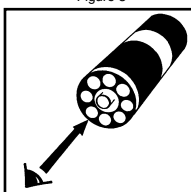

Figure 4
- a. Place the CHEMet ampoule, flat end down into the center tube of the low range comparator. Direct the top of the comparator up toward a source of bright light while viewing from the bottom. Rotate the comparator until the color standard below the CHEMet ampoule shows the closest match (fig 4).